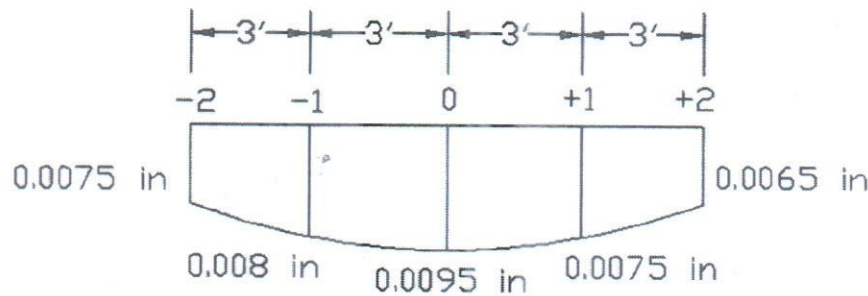

Figure: 1
- (b) Experimentally observed value of deflection of a beam are shown in the figure 1. Estimate the bending moment at points: -2, -1, 0, +1, +2. Given,  $E = 29 \times 10^6 \text{ psi}$ ,  $I = 1000 \text{ inch}^4$  8 CO3 PO1